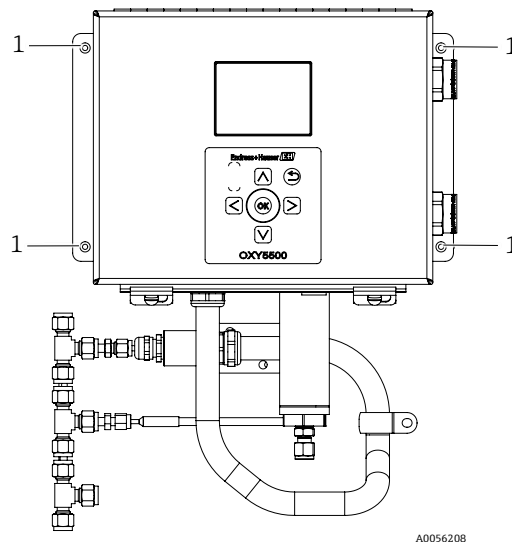

Figure 7. Analyzer mounting hole locations (1)
2. Locate the mounting holes on your unit. Refer to Figure 7 and the system drawings in *Appendix A* → .